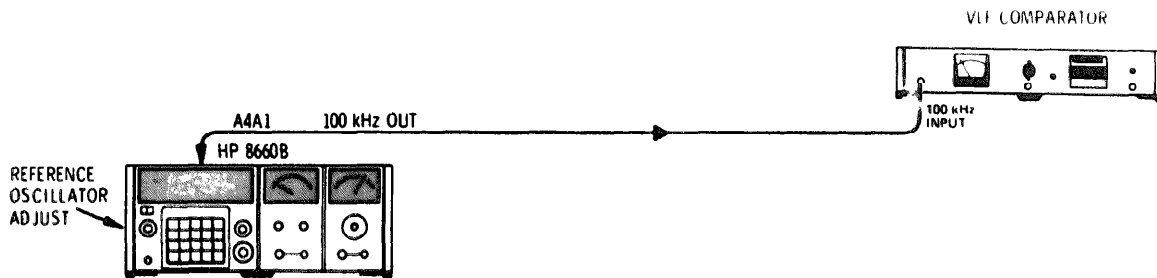

Figure 5-2. Reference Accuracy Adjustment Test Setup
- 1 Internal Reference Accuracy Adjustment (see Figure 5-2) (Allow adequate warmup time.)